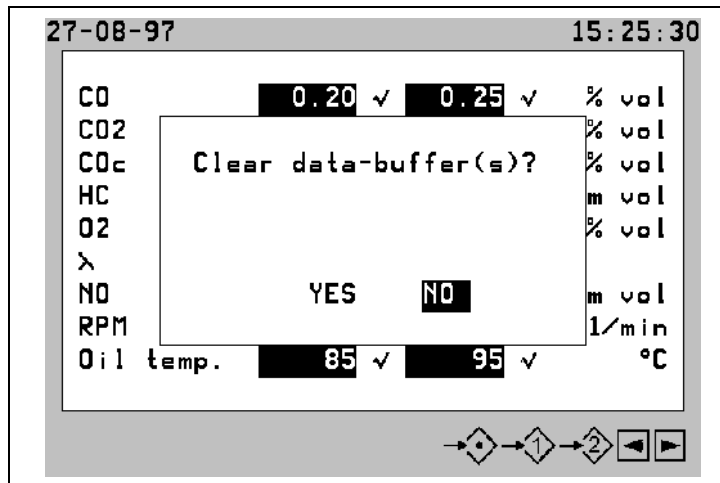

Figure 1-5: Clearing Data Buffer(s)
- ✓ On the Results Screen shown in Figure 1-5, results of data buffer 1 or 2 can be deleted by selecting the correct number and pressing ENTER. The program displays “Clear data buffer(s)?”. Select Yes to clear the data of buffer 1 or 2.